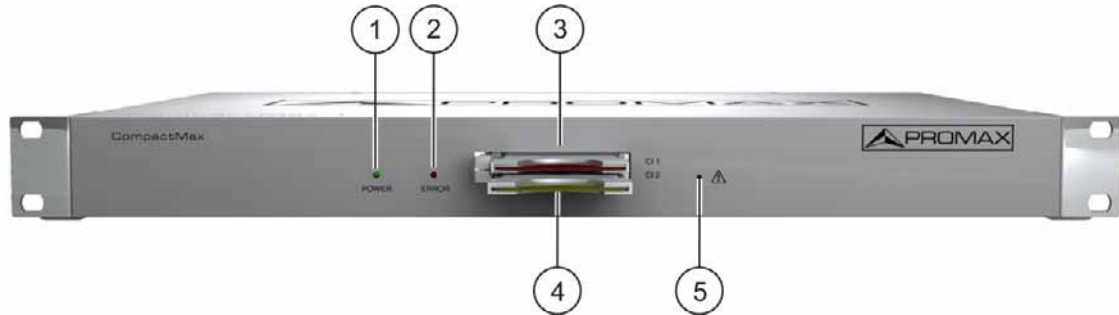

Figure 2.
- 1 Press the reset button of the IP address (see figure 2 – (5)).